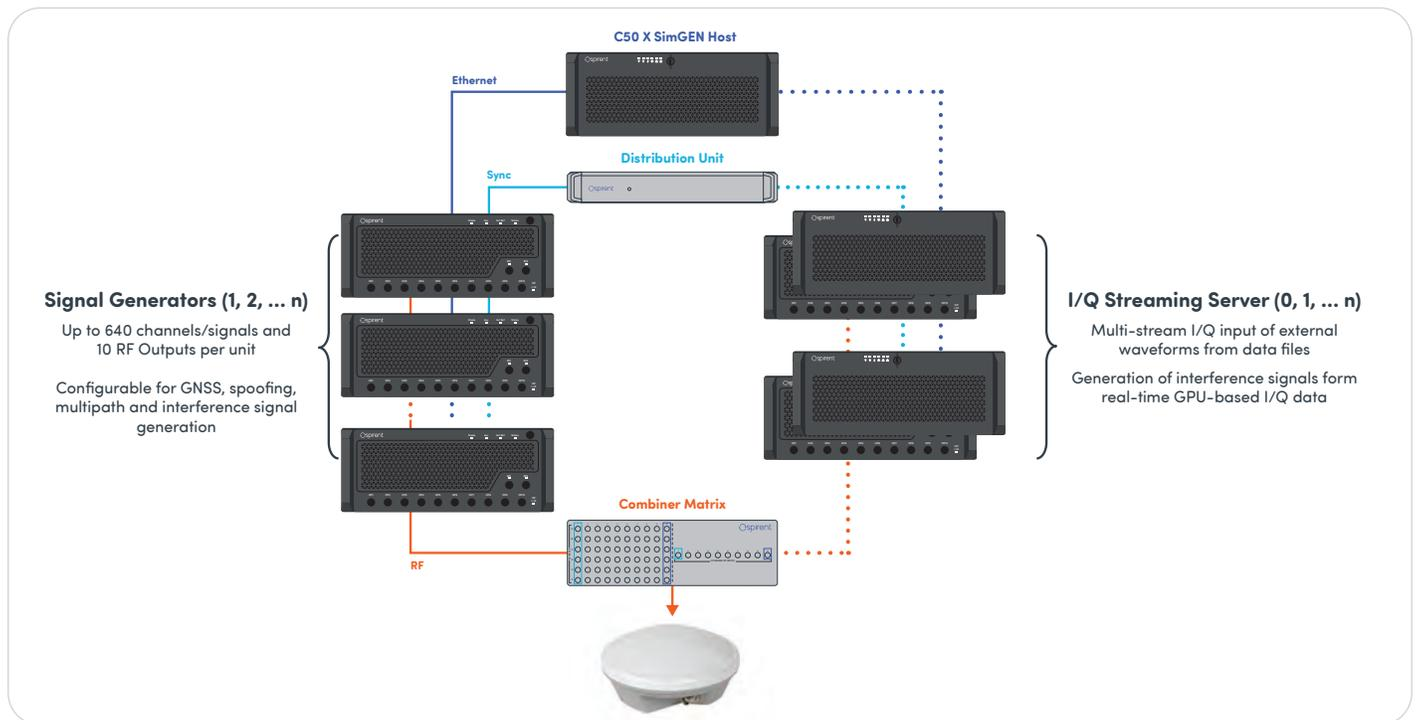

Figure 1: Multi-element system configuration diagram
- Figure 1: Multi-element system configuration diagram 4
The overall system comprises several key hardware components depicted in Figure 1. The number of signal generators or I/Q streaming servers varies depending on user application and testing needs. All the equipment is self-contained in a 19" rack cabinet solution.